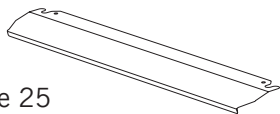

Figure 25
1. A safety panel is designed to protect control panel and the buttons when the oven is in Grill mode (Figure 25)